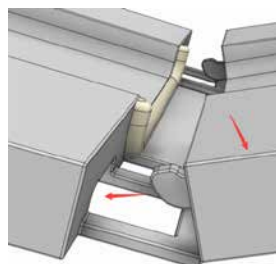

Fig S4
- Insert the hook shaped tabs on the front of the shims into the notches on the back of the extensions (Fig. S4).